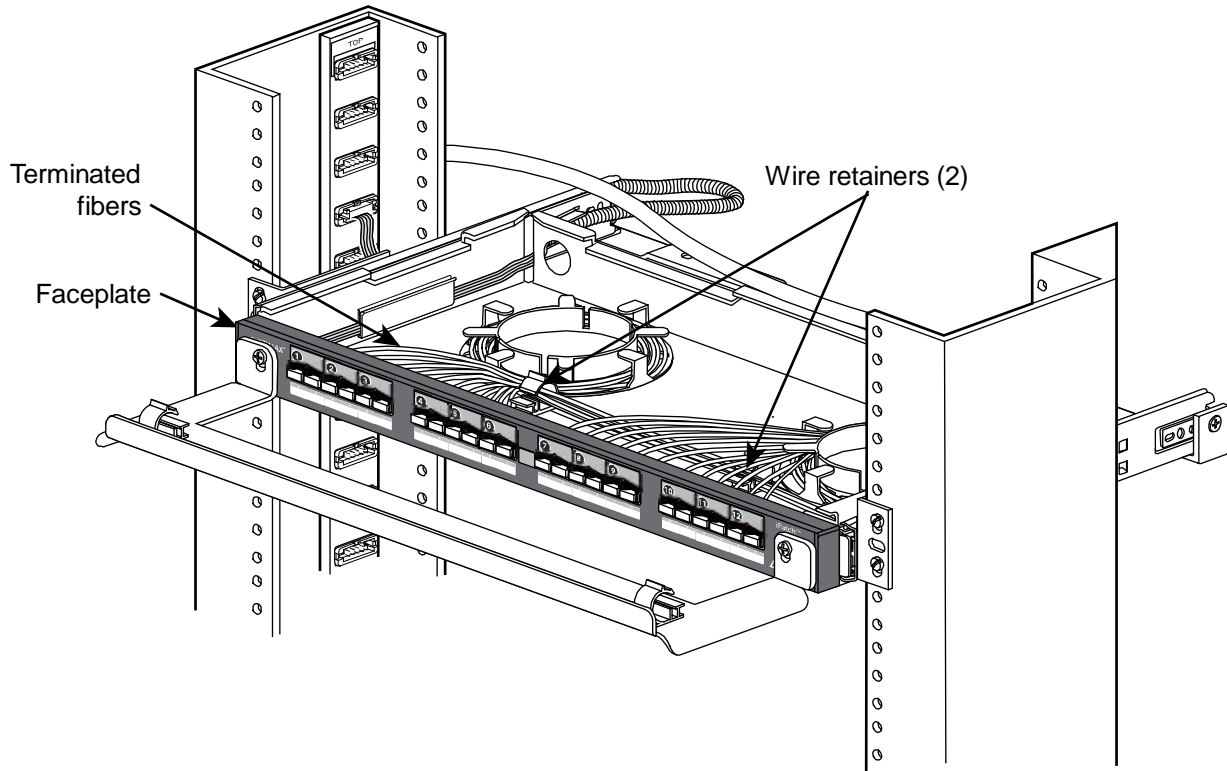

Figure 11 Routing the Terminated Fibers
2. Affix the 2 adhesive-backed wire retainers to the shelf approximately in the position shown in Figure 11.
3. Route the buffered fibers through the wire retainers and around the storage drums to the adapters on the back of the faceplate (Figure 11).